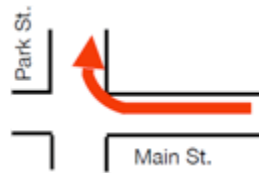

Figure I-2. Course path shown through a fully defined intersection.
20. All intersections that are turns on the course should be detailed in full, e.g., four way, three way or T intersection. The map only needs to show that a street continues past the turn. The example in Figure I-2 below, the red arrow illustrates the runners path through a four way intersection.